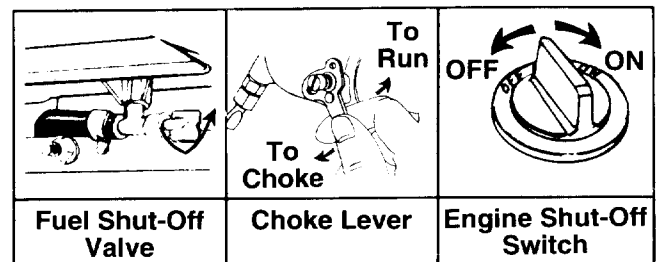

FIGURE 14.
- Open fuel shut-off valve by turning in direction of arrow several turns. See figure 14.
- Place the engine shut-off switch in ON position. See figure 14.
NOTE: If engine does not fire after three attempts, move choke lever halfway between CHOKE and RUN position and try again. See figure 14.
- Move engine shut-off switch to OFF position. See figure 14.